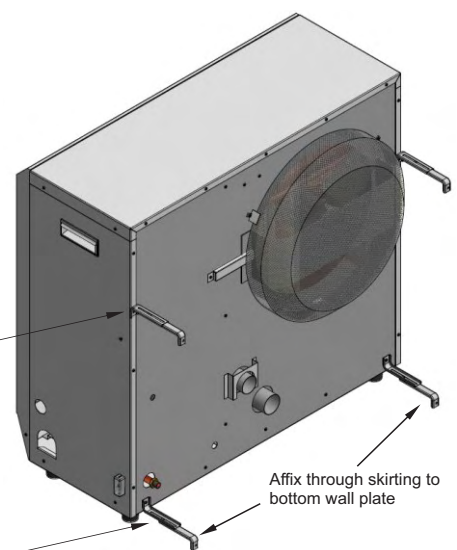

FIG 2. 4 x ADJUSTABLE (SLOTTED) BRACKETS SUPPLIED - SEE PHOTO “E” PAGE 25
3. **Each FF-95 is supplied with 4 x adjustable wall mounting brackets (Fig 2.), two Cobra “Driller Toggles” Type (360SE) (Fig. 3) and 2 x 65mm x No 8 CSK Wood Screws.**
- 1) Affix each of the 4 sets of slotted 2 piece wall brackets to the back of the Heater as shown in Fig. 2 (page 24) (Use wall template to determine where brackets are located on back of Heater).
- 1 - The Valve Body, which must be installed outside the external wall UPRIGHT (Fig 2 - Example Photo).